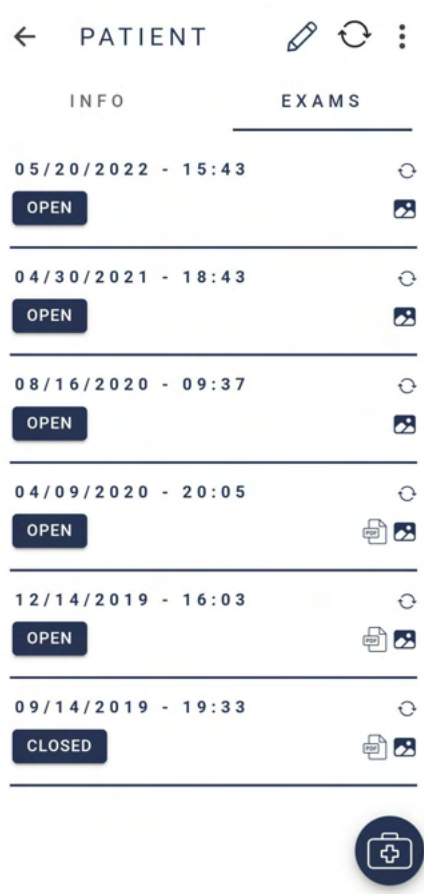
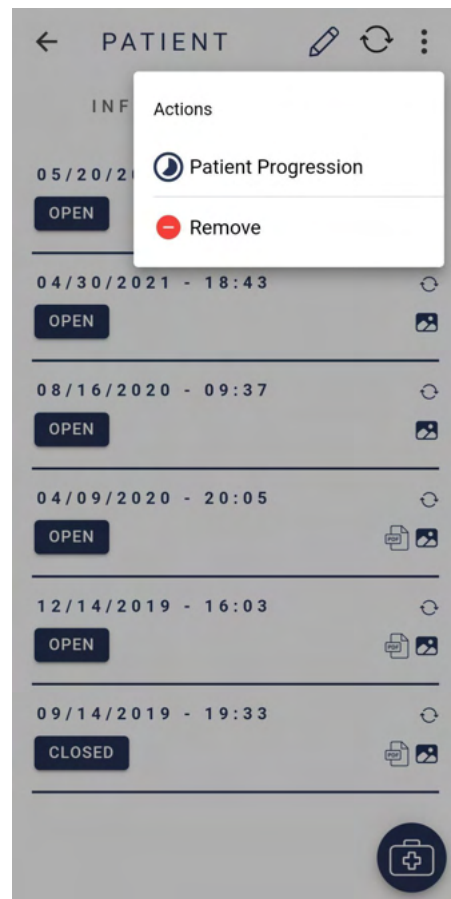
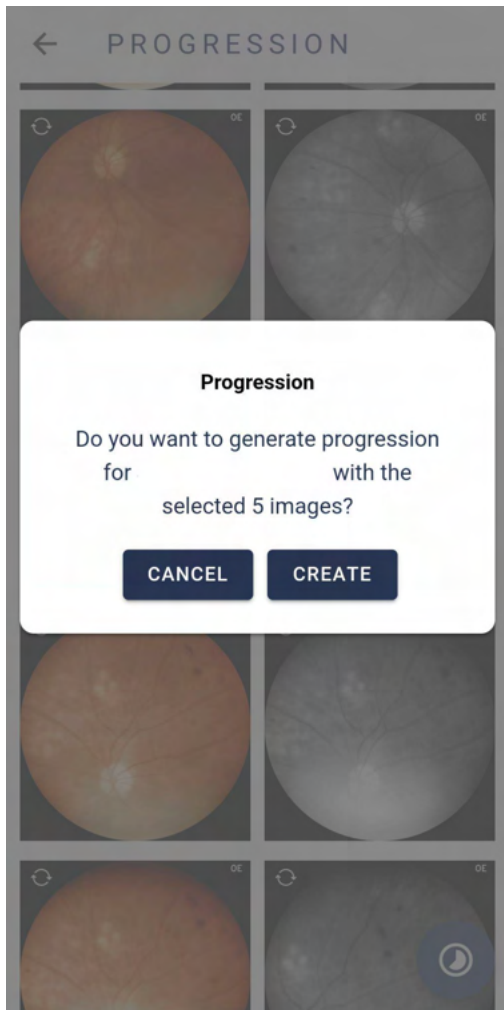
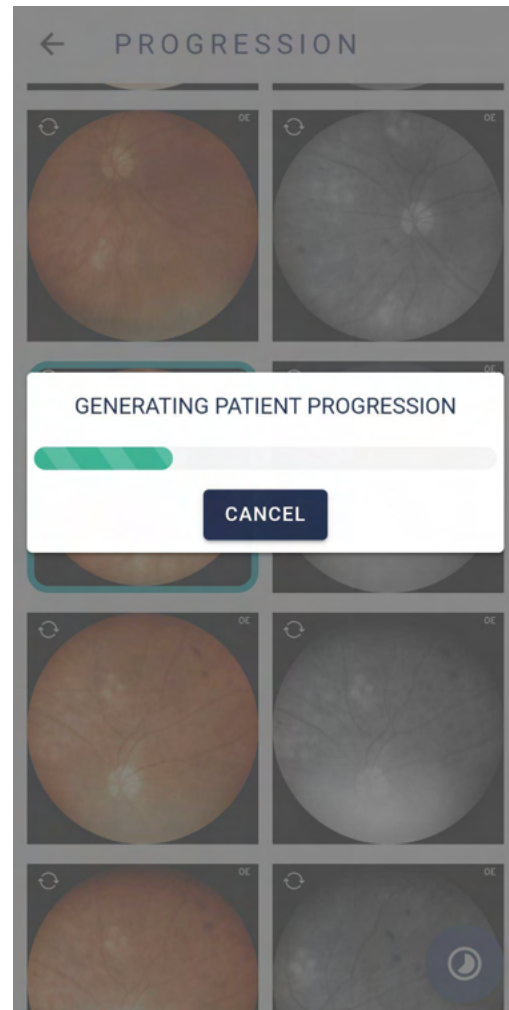

Figure 46: List of patient exams.
Figure 47: Patient progression.
Figure 50: Confirm creation.
Figure 51: Wait for progression.
Patient progression is a function of temporal analysis of a patient's evolution. To generate it, enter the list of patient exams, 3.2.1.1.2.3 Exams, click on the symbol , Figure 46, under "Patient Progression", Figure 47, on the symbol  to view the images of this exam, Figure 48, click and hold to select an image, Figure 49 - item 1, and click to generate the symbol , Figure 49 - item 2. Images from different areas of the retina can be chosen, but they must be from the same eye. Confirm with "Create", Figure 50, and wait, Figure 51.